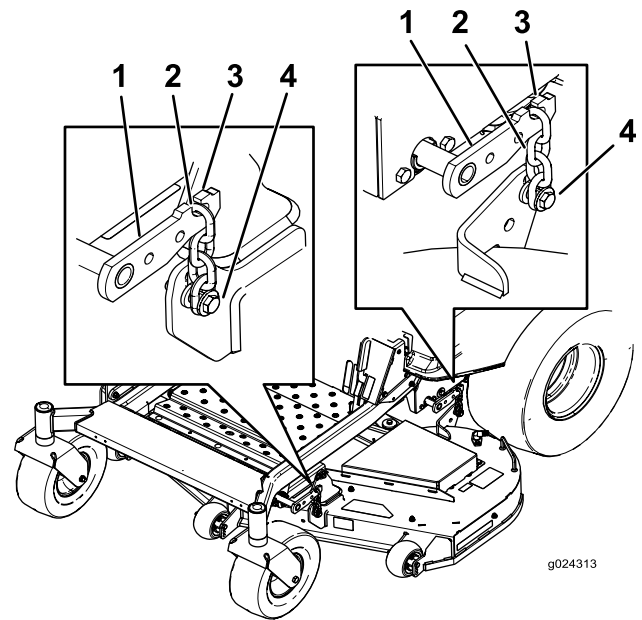

Figure 63
5. Loosen the adjustment bolts on all 4 corners so that the deck is sitting securely on all 4 blocks (Figure 63).
6. Ensure that there is tension on all 4 chains (Figure 63).
7. Tighten the 4 adjustment bolts (Figure 63).